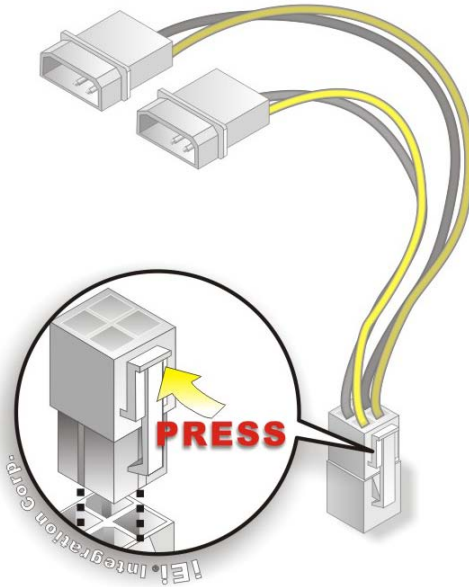

Figure 4-12: Power Cable to Motherboard Connection
Step 2: Connect the Power Cable to the Motherboard. Connect the 4-pin (2x2) Molex type power cable connector to the AT power connector on the motherboard. See Figure 4-12.